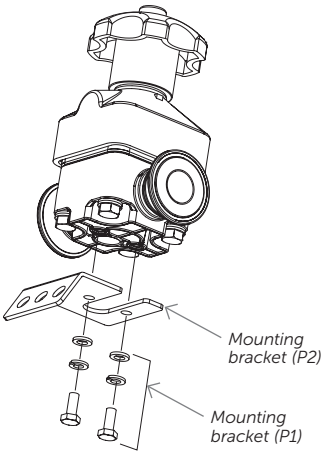

Figure 1.
- Using a  $\frac{5}{16}$ " hex wrench for  $\frac{1}{2}$ " valves, and a  $\frac{7}{16}$ " hex wrench for 1" and 2" valves, and hardware (P1) provided, attach the mounting bracket (P2) to your Cynergy valve, refer to Figure 1.